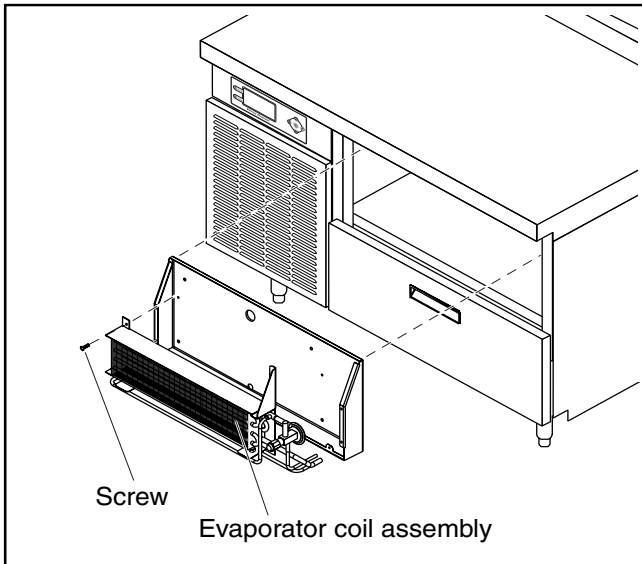

Figure 7. Evaporator Coil Assembly Removal
8. Remove the evaporator coil assembly from the unit (Figure 7).